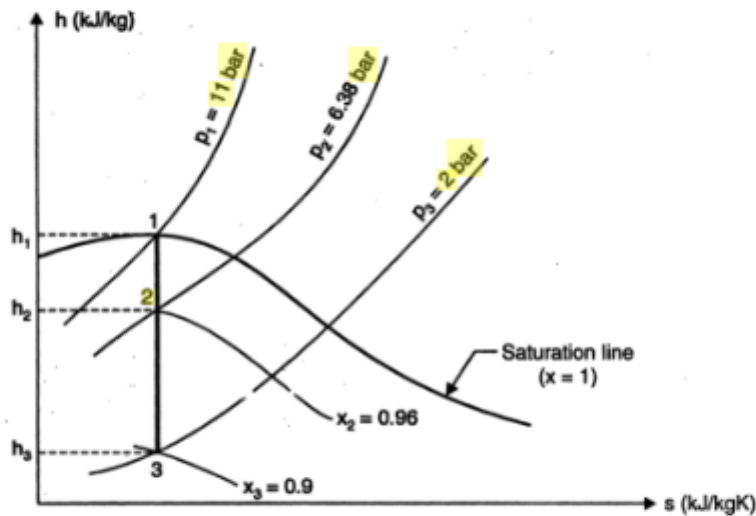

Fig. 18.11
**Solution.** Refer Fig. 18.11.
- From Mollier chart (Fig. 18.11) point 1 is located on the dry saturation line corresponding to 11 bar pressure.